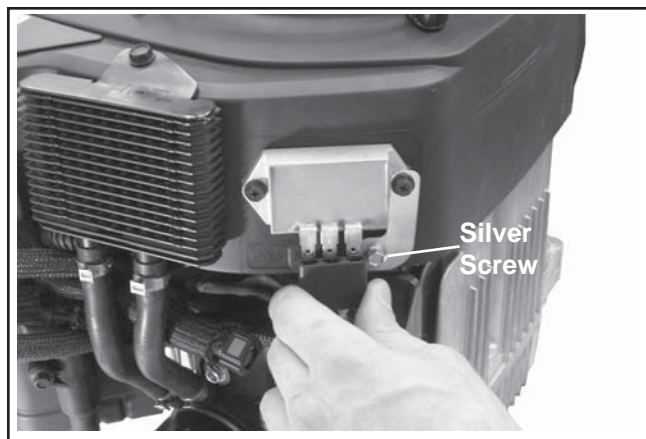

Figure 8-29. Disconnect Plug from Rectifier-Regulator.
1. Disconnect the plug from the rectifier-regulator. See Figure 8-29.